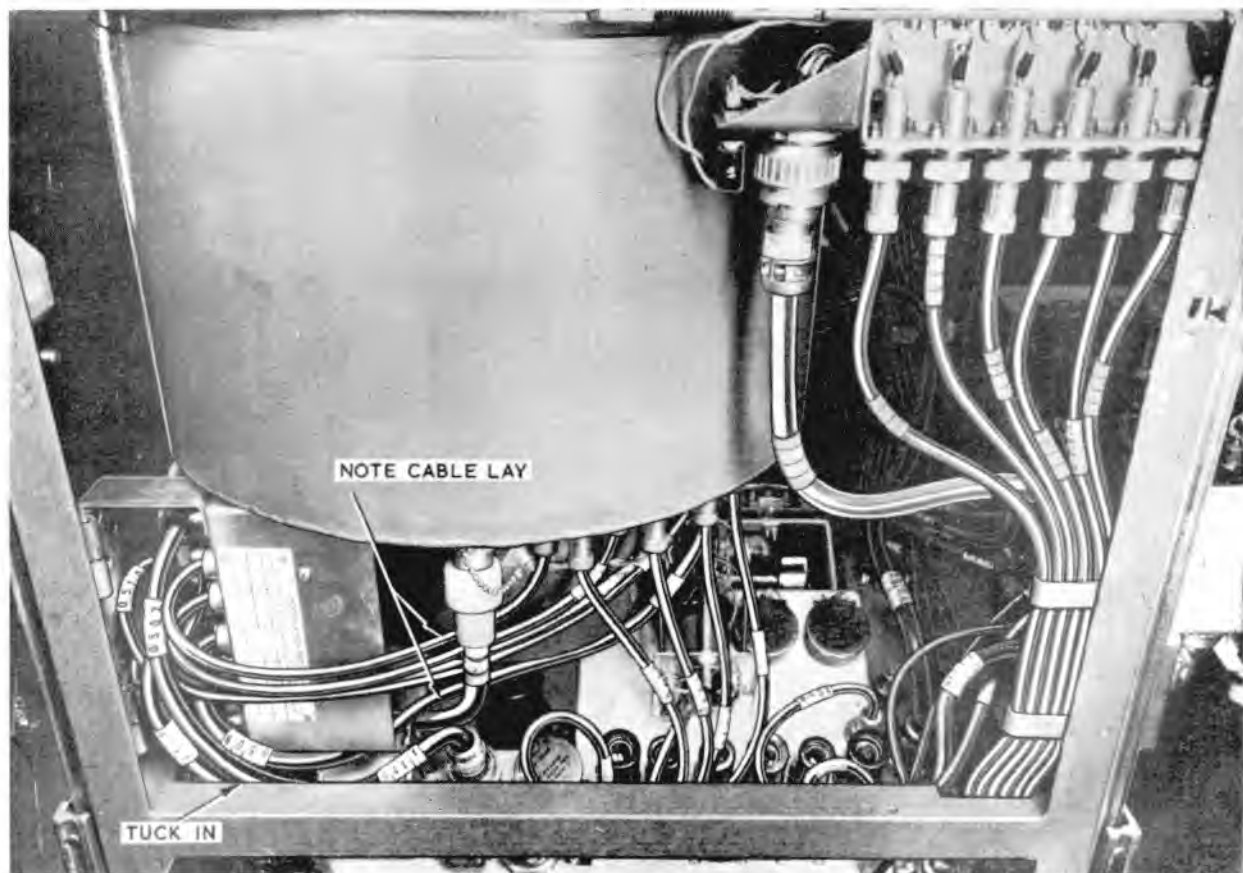

Fig. 12. Console Type 64—underside of upper unit
52. Fig. 12 shows the arrangement of the cables